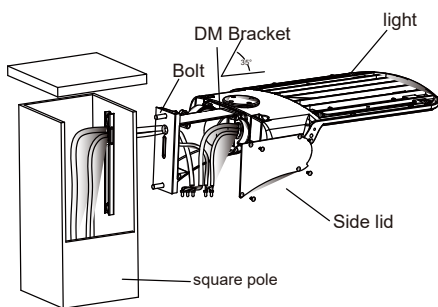

Figure 3
- Secure the PMB bracket to the square pole using the Fixing Bolts, guide the wire into the junction box, and wire it according to the "General Wiring Diagram". Place the connected wires inside the junction box and close the box securely (Figure 3).